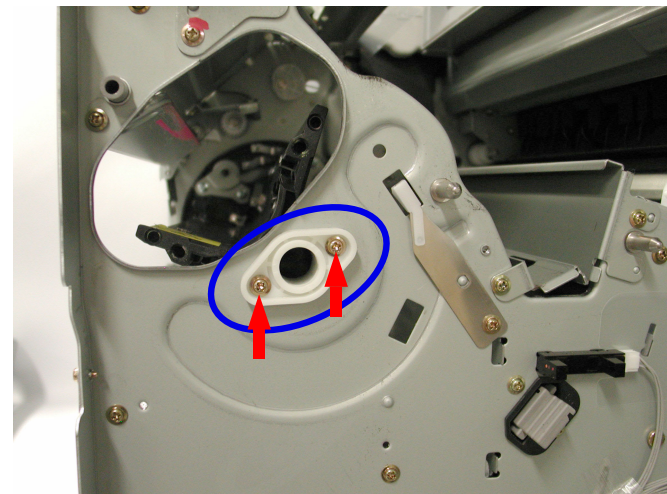

Figure 4-59. Removing the Rack Fulcrum Cover
5. Remove the Rack Fulcrum Cover. (2 screws) (See "Figure 4-59 (p.201)")